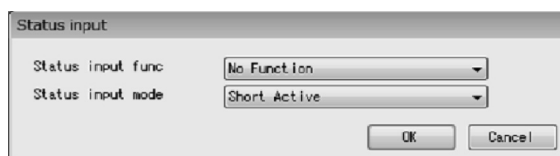

Fig.54
- ① Click the "Setup (S)" menu, and then select and click "Status input".
- ② The following window will be displayed (Fig. 54). Set the status input function here.